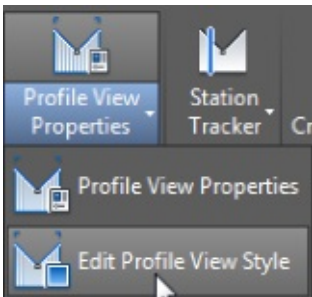

Figure 19.47 Accessing the profile view style
3. From the Profile View contextual tab select Profile View Properties > Edit Profile View Style, as shown in Figure 19.47.